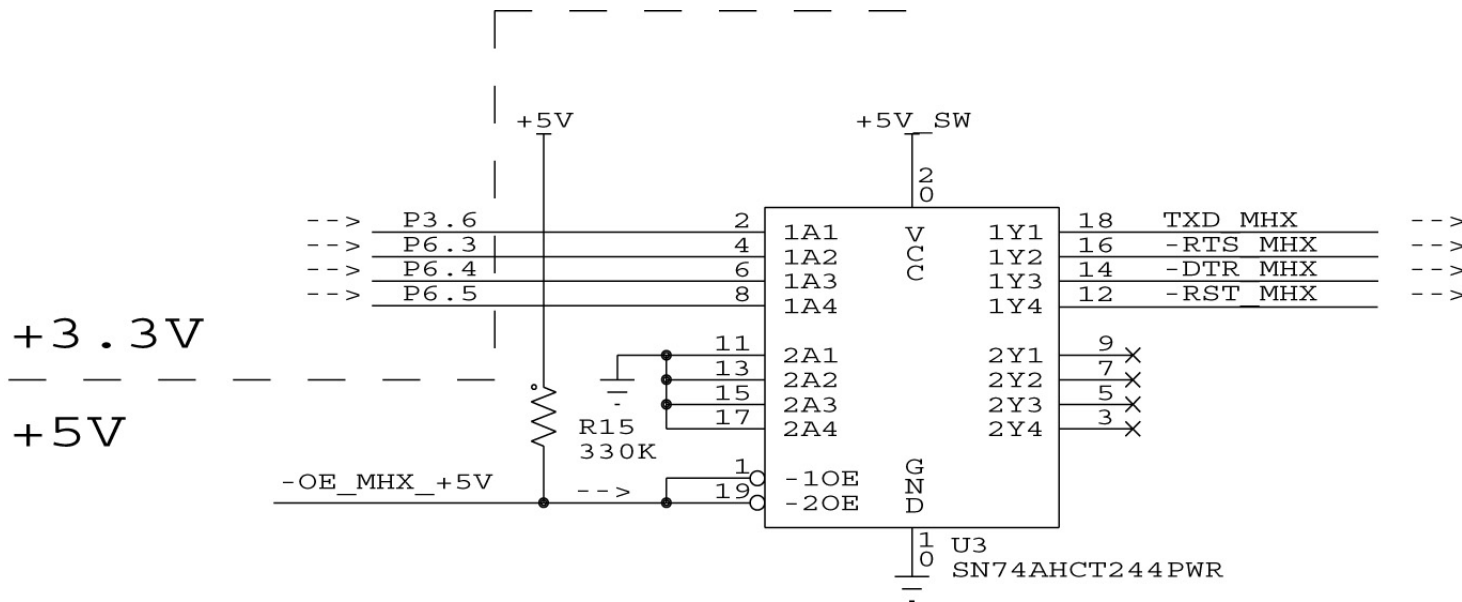

Figure 5: Level-shifting up to +5V using AHCT Logic
- To translate 3.3V up to 5V, we use half of an AHCT244 powered at 5V (on demand). The  $-\text{OE}$  control signal must also be level-shifted to 5V for minimum power consumption (Figure 5).